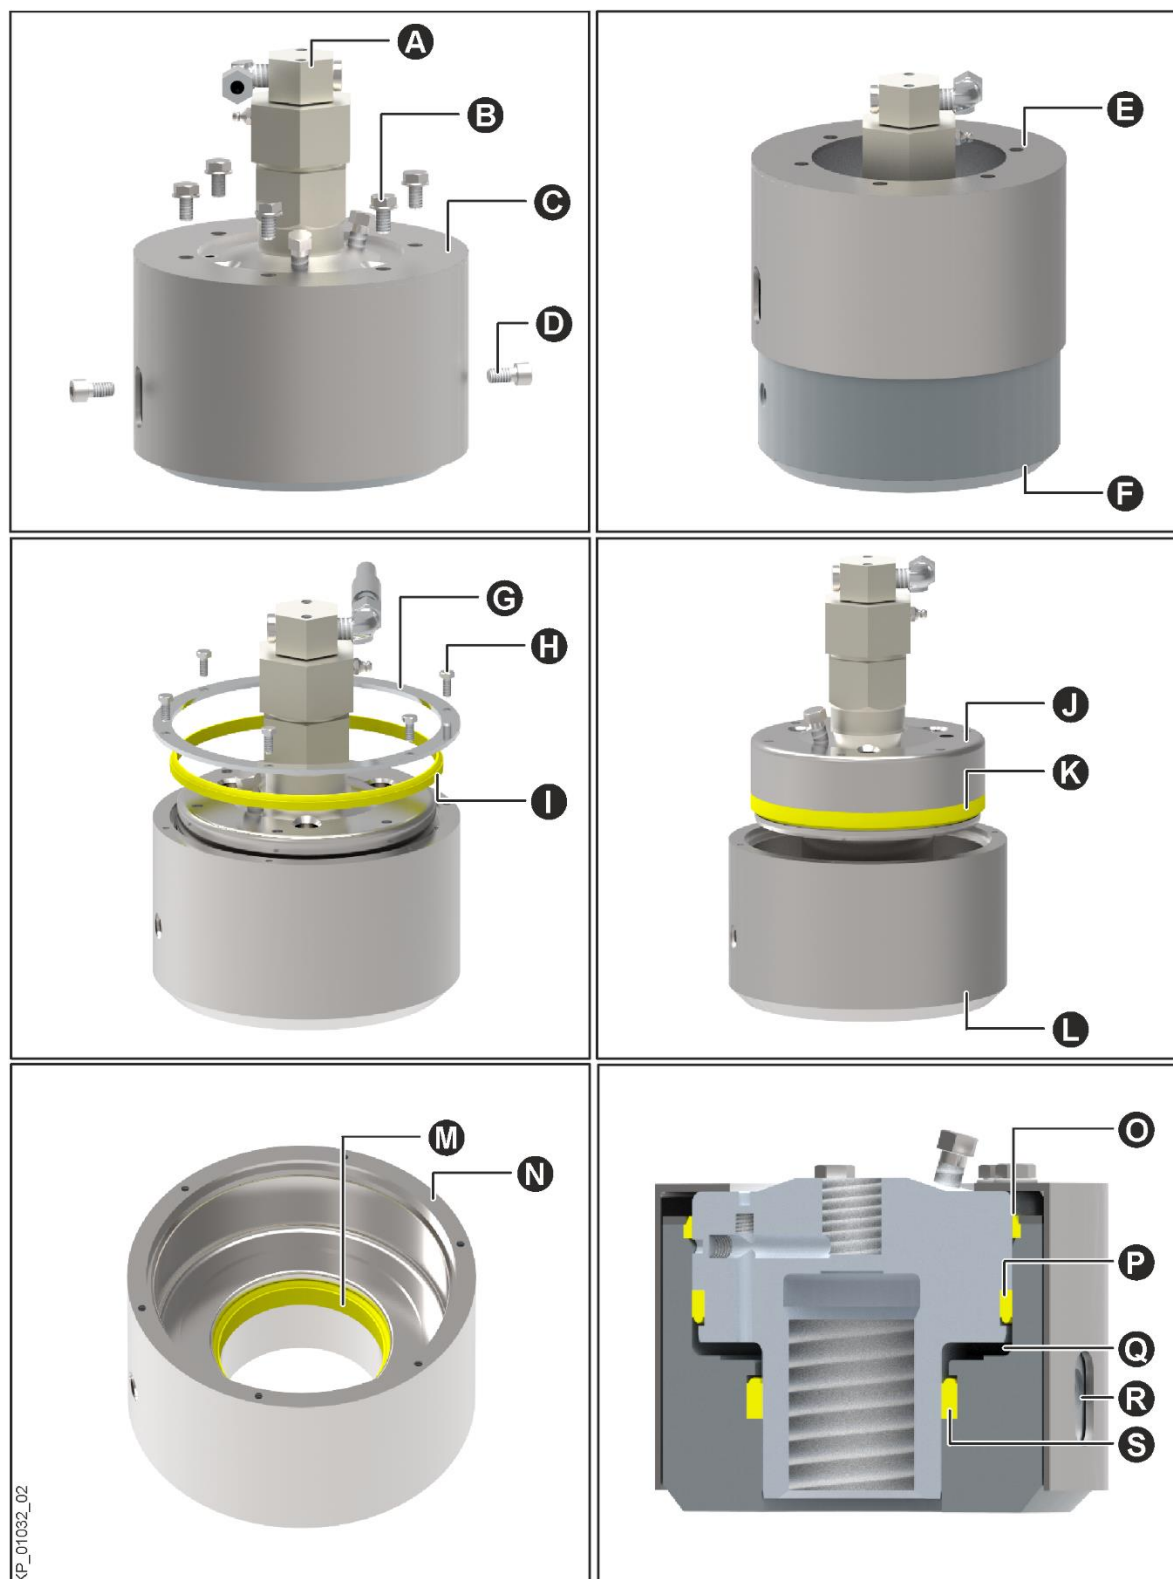

Fig. 48: Overview of the hydraulic nut
When installing the seals, make sure that the sealing lips show in the direction of the oil chamber (Fig. 48/Q). Incorrect assembly can cause serious damage to the hydraulic nut.
- Observe the position of the seals (Fig. 48/P, S)!
- Make sure that the simple revolute joint (Fig. 48/A) is still mounted.
- Remove the screws (Fig. 48/B) from the cover (Fig. 48/C).
- Remove the securing screws (Fig. 48/D).
- Remove the cover (Fig. 48/C) from the annular cylinder (Fig. 48/F).
- Remove the screws (Fig. 48/H) of the holding plate (Fig. 48/G).
- Remove the scraper (Fig. 48/I).
- Hold the annular cylinder (Fig. 48/L) firmly and carefully pull out the annular piston (Fig. 48/J) at the simple revolute joint until the seals (Fig. 48/K, M) are exposed.
- Remove the old seals (Fig. 48/K, M).
- Insert new seals (Fig. 48/K, M).
- Observe the position of the seals (Fig. 48/P, S).
- Push the annular piston (Fig. 48/J) and the annular cylinder (Fig. 48/L) into each other again and press them together manually.
- Insert new scraper (Fig. 48/I).
- Observe the position of the scraper (Fig. 48/P).
- Mount and screw the holding plate (Fig. 48/G) (Fig. 48/H).
- Place the cover (Fig. 48/E) on the annular cylinder (Fig. 48/F) again.
- Align the recess of the cover with the bore in the annular cylinder (Fig. 48/S).
- Screw the cover (Fig. 48/C) to the annular cylinder (Fig. 48/F) (Fig. 48/B).